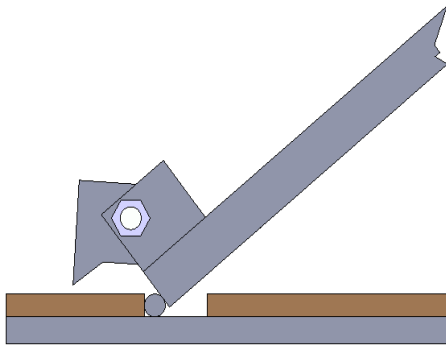

Fig.18
3. To raise and lock the lift: Press the button up till the lift is raised to the required height and the locks are in engaged (**See Fig.18**), then push release handle of the power unit, the lift would be locked.